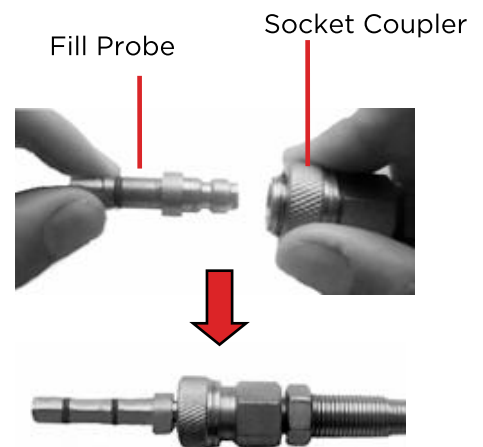

FIG 3 FIT FILL PROBE
(See FIG 3 to fit fill probe).
- Follow FIG 3 to fit the fill probe.